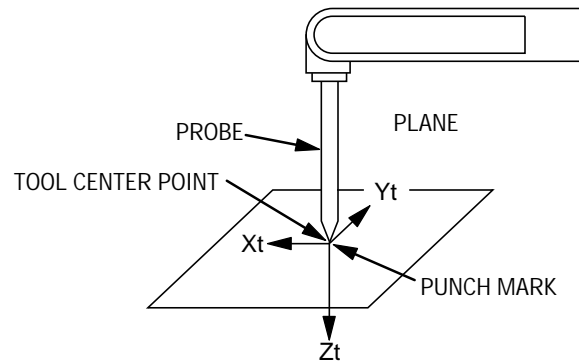

Figure 11-1 Tool Center Point
14. With the probe in the punch mark and vertically plumb, and the T-axis at 0 pulses, record the first point (see Figure 11-1).